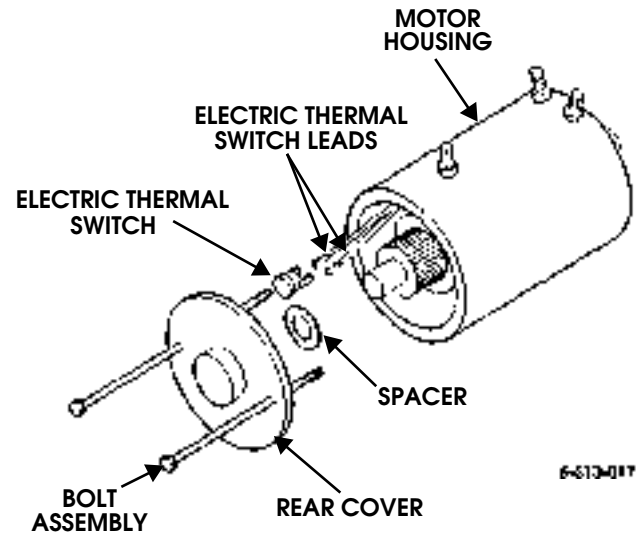

Figure 9-180: Motor and Gasket
5. Place winch on end with motor end up (Figure 9-180).
5. Coat head of electric thermal switch with lubricant and connect to two electric thermal switch leads (Figure 9-180).